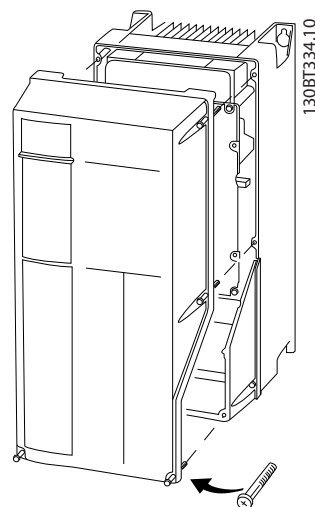

Figure 2.18 Control Wiring Access for A4, A5, B1, B2, C1 and C2 Enclosures
- Or remove front cover by loosening attaching screws. See *Figure 2.18*.